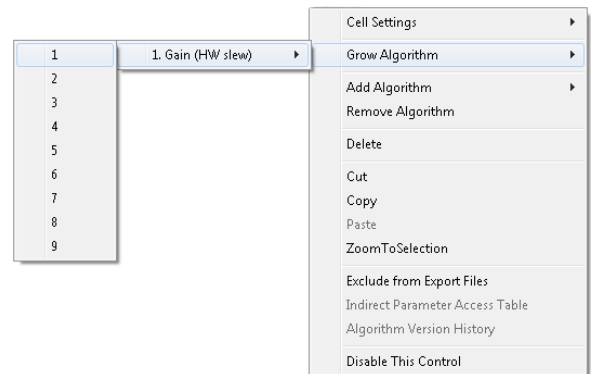

Figure 27. Growing the Volume Control to Two Channels
2. By default, the volume control block has one input and one output; in other words, it is a single channel. To add another channel, right click in the empty white space of the **Single-Volume** block, and, from the dropdown menu that appears, select **Grow Algorithm > 1. Gain (HW Slew) > 1** (see Figure 27).